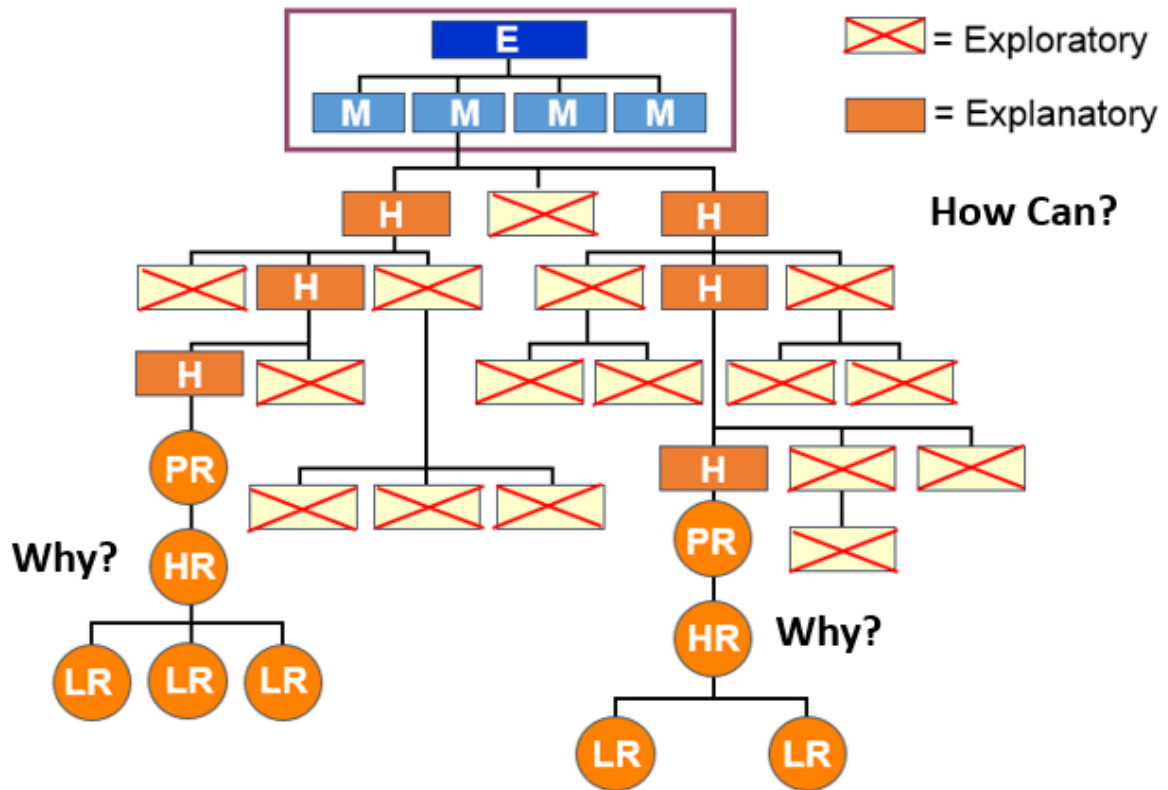

Figure 7: Logic Tree Expression
The **Modes (M)** are the physical manifestations of the failure that led to the final consequence or Event. These are observable, indisputable facts/anomalies at the scene of the failure (see Figure 7). Examples of Modes may be things like a pump failure, laceration to a hand, loss of a key client, low process yield and contaminated product. Think of the purple lined box encompassing the Event and Modes, as the caution tape around the crime scene. Everything inside it, is an indisputable **FACT**. Such facts exist and need to be explained.
The Importance and Method of Telling the Story. The logic tree also becomes the graphical storytelling tool that can carry an audience through the details of the Event as it unfolded (along with a complete narrative and verification log of evidence). In Figure 7, this logic tree demonstrates the ability to graphically represent the story (paths to failure) of what ‘did’ happen, within the bigger content of what ‘did not’ happen. The actual paths to failure represent the *explanatory* tree and the entire tree (including the ‘NOT TRUE’s) is the *exploratory* tree.